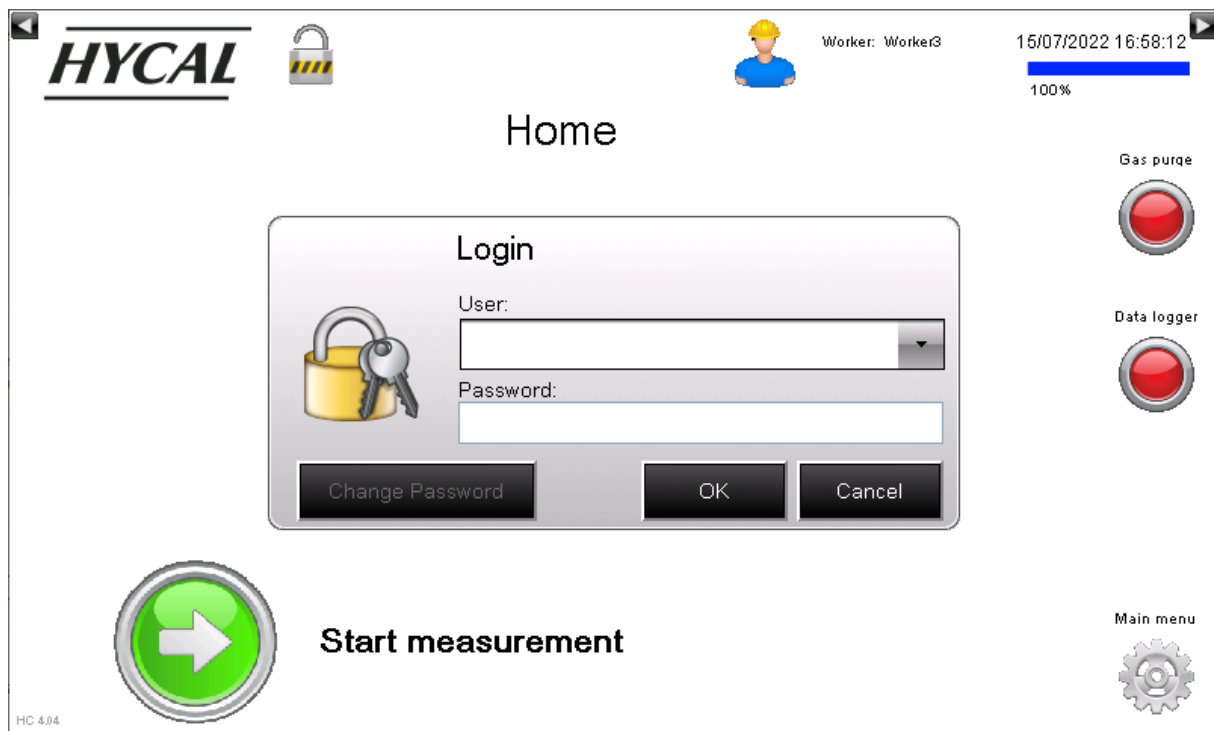

Figure 11: Login screen
- To log in, first lift the protective screen cover and press the padlock symbol. The "Login" screen will appear (Figure 11).
- First log out then press the padlock symbol to activate the "Login" screen (Figure 11).